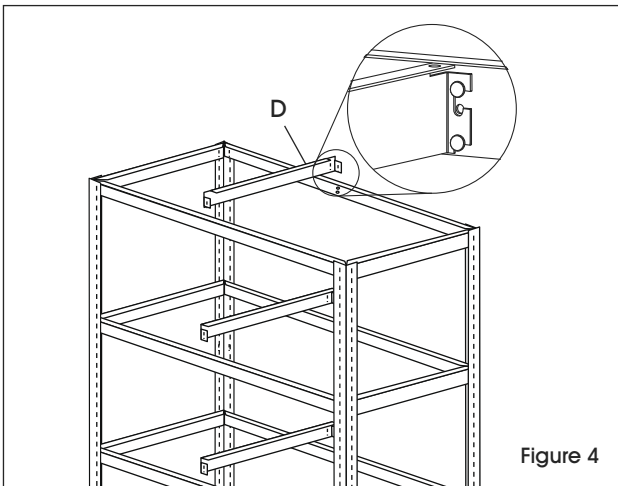

Figure 4
6. Attach center supports (D) at each level by placing the keyhole slots (on center support) over the rivets (on the inside of the front/back supports) and tapping them into place. (See Figure 4)